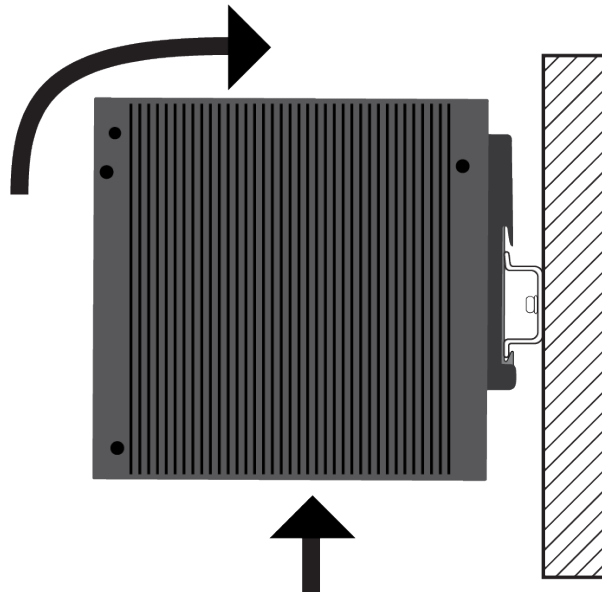

Figure 24. Installing the Switch on a DIN Rail - 2
3. Press upwards on the bottom panel of the switch to compress the springs in the DIN rail bracket, and pivot the switch until vertical. Refer to Figure 24.